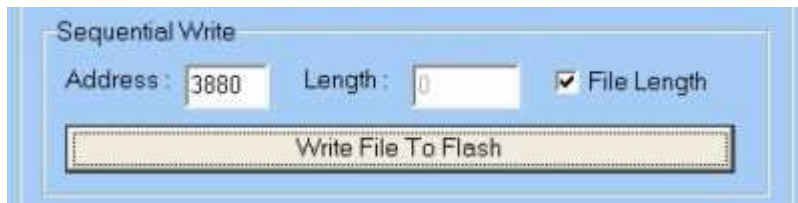

Figure 6.6. Write an entire file into the Flash Memory
5. You can also load a file into Flash by using Sequential Write function. Please refer to Figure 6.6. You have to specify the starting address and the length (in bytes) to be written into the Flash.